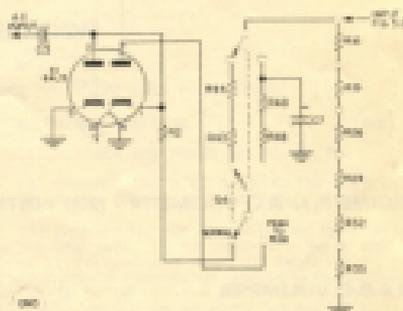

FIGURE 3.3 A.C. VOLTMETER CIRCUIT
a. Normal Position - With reference to Figure 3.3 and the switch in the normal position, the a.c. voltage to be measured is rectified by one-half of the 6AK5 twin diode, and the resultant a.c. voltage is applied to the divider network. Part of this voltage, as determined by the position of the Range Control, is fed to the input grid of one of the triodes of the bridge tube causing the bridge circuit to function. In this normal position the instrument is calibrated to read in terms of RMS voltages of a sine wave.
2. Negative contact potential is developed across the rectifier tube before any input voltage is applied. Due to the normal emission of electrons by the cathode. In either position of the switch (normal or peak-to-peak), this negative potential is applied across the input voltage divider network and would cause the meter to deflect. To compensate for this undesirable deflection, a positive voltage from the 84 supply equal to the contact potential is fed to the voltage divider network through a 50-megohm resistor. The A.C. Voltmeter, 1200 volts, with reference to Figure 3.3 (a), consists of one-half of a 6 Z 5 Diode Rectifier. This rectifier voltage is applied to R48 of the voltage divider network and impressed on a grid of the bridge tube circuit.